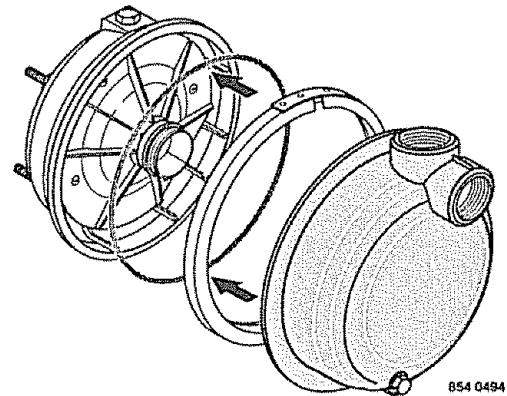

Figure 25 – Assemble Pump
2. Put O-Ring in groove on face of flange; put pump halves together (see Figure 25).